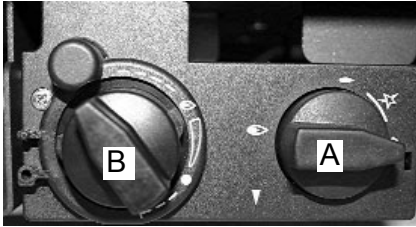

Fig. 20e
Note: Ensure burner control knob "B" is set at maximum and pilot control knob "A" is set in the off position. (See Fig. 20e)
Step 3. To turn the stove and the pilot off completely, turn control knob “A” to the small flame setting, (pilot frame) depress and turn to off position, then release (See Fig. 20e)